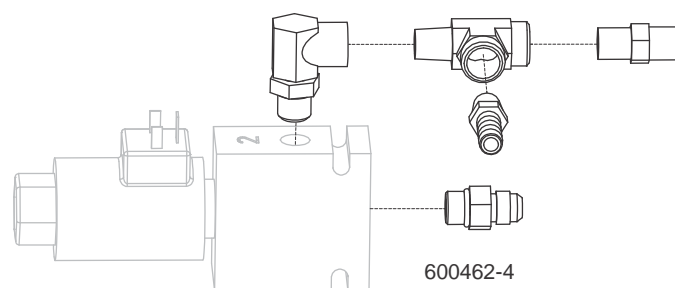

FIGURE 3
See Figure 3.
10. Install the provided T-, elbow and straight fittings to the top of the PFCV as shown in figure 3.